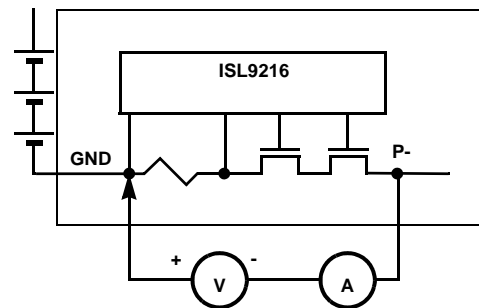

FIGURE 9. CHARGE OVERCURRENT TEST CONNECTION
- Connect the charge emulation power supply positive terminal to the board GND pin and the charge emulation power supply negative terminal connected to the board P- pin. See Figure 9. A current probe can be used to monitor the overcurrent details.